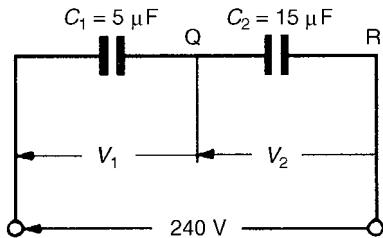

Figure 6.10
- (a)  $2 \mu\text{F}$  in parallel with  $3 \mu\text{F}$  gives an equivalent capacitance of  $2 \mu\text{F} + 3 \mu\text{F} = 5 \mu\text{F}$ . The circuit is now as shown in Fig. 6.10.
- (b) The charge on each of the capacitors shown in Fig. 6.10 will be the same since they are connected in series. Let this charge be  $Q$  coulombs.